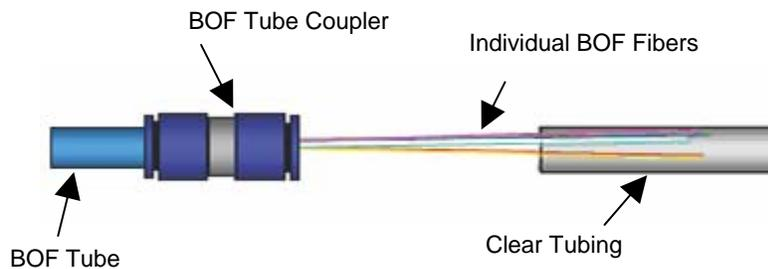

Figure 3
Step 4 - Insert the individual fibers into the short piece of clear BOF tube provided. Slide the clear BOF tube over the fibers to within approximately 50mm (2 inches) of the tube coupler (Figure 3).